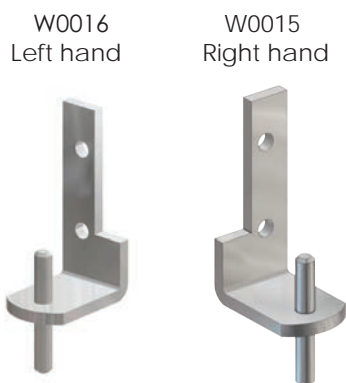
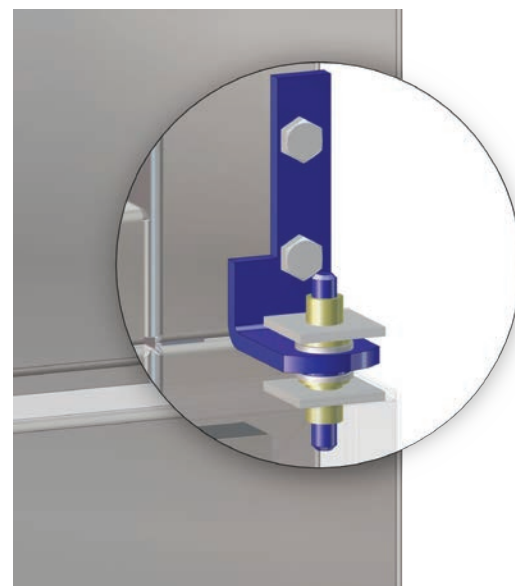

Figure 56: Intermediate Door Hinge
Figure 57: Intermediate Door Hinge in Place
**Note:** For warming cabinets with more than one door, an intermediate hinge (Figure 56) fits between the bottom of the top door and the top of the bottom door of the dual chambered warming cabinet (shown in blue in Figure 57). (Middle doors on Triple chamber warming cabinets use only intermediate hinges for both top and bottom.)